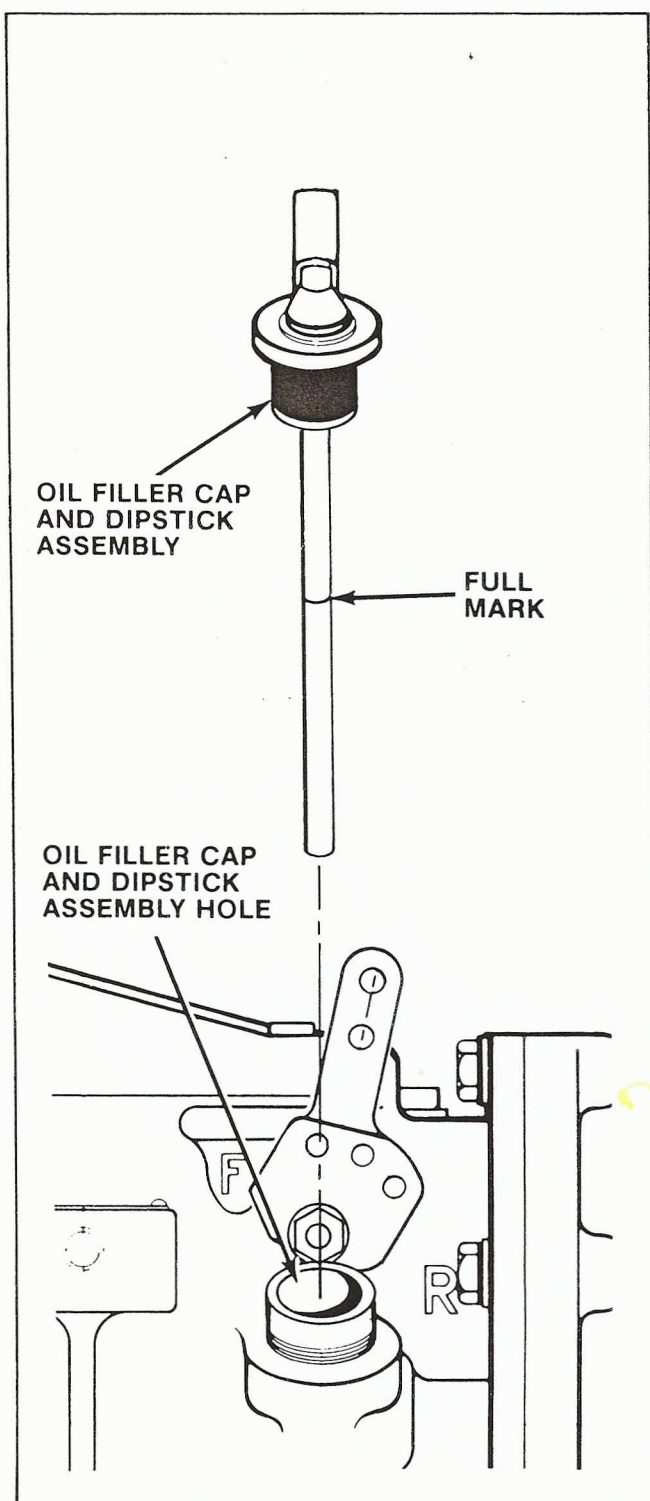

Figure 2-3. Dipstick Assembly
- b. Remove oil filler cap and dipstick assembly (see Figure 2-3).